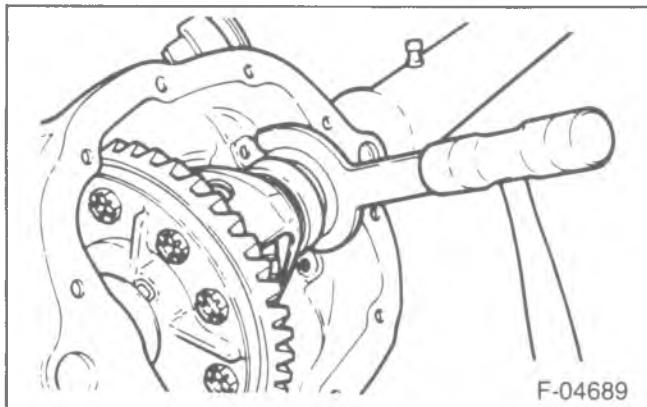

Figure 17—Differential Bearing Preload Shim Installation
10. Select a shim 0.10 mm (0.004-inch) thicker than the one removed from the left side. Insert this shim between the spacer and the left bearing race (figure 17).
12. Select a shim 0.10 mm (0.004-inch) thicker than the one removed from the right side. Insert the shim between the spacer and the right bearing race, and drive the shim into place (figure 17).